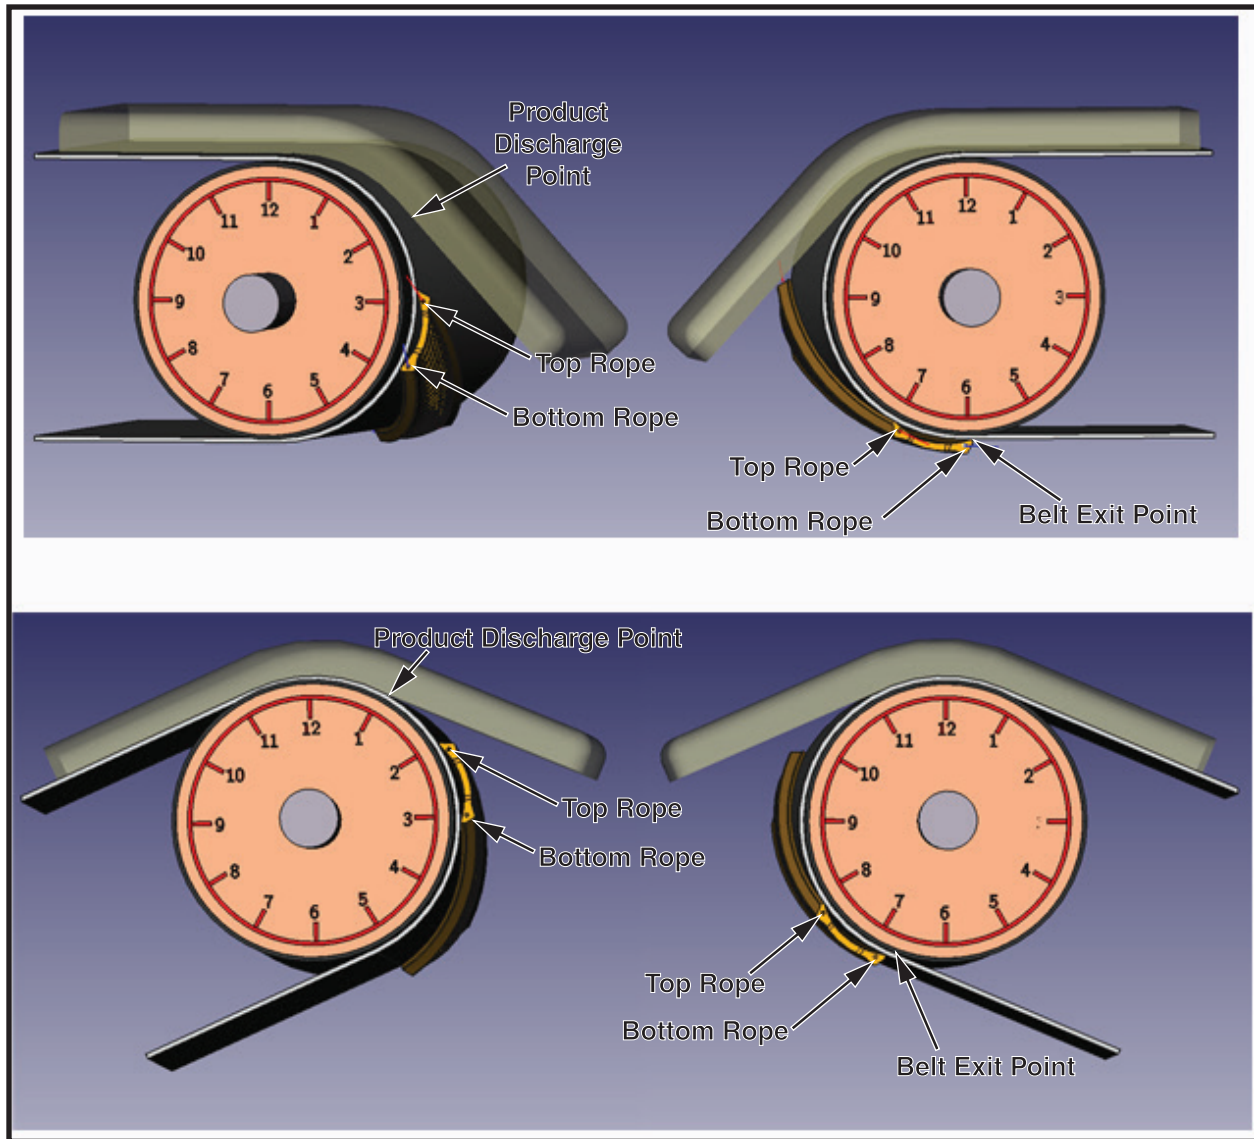
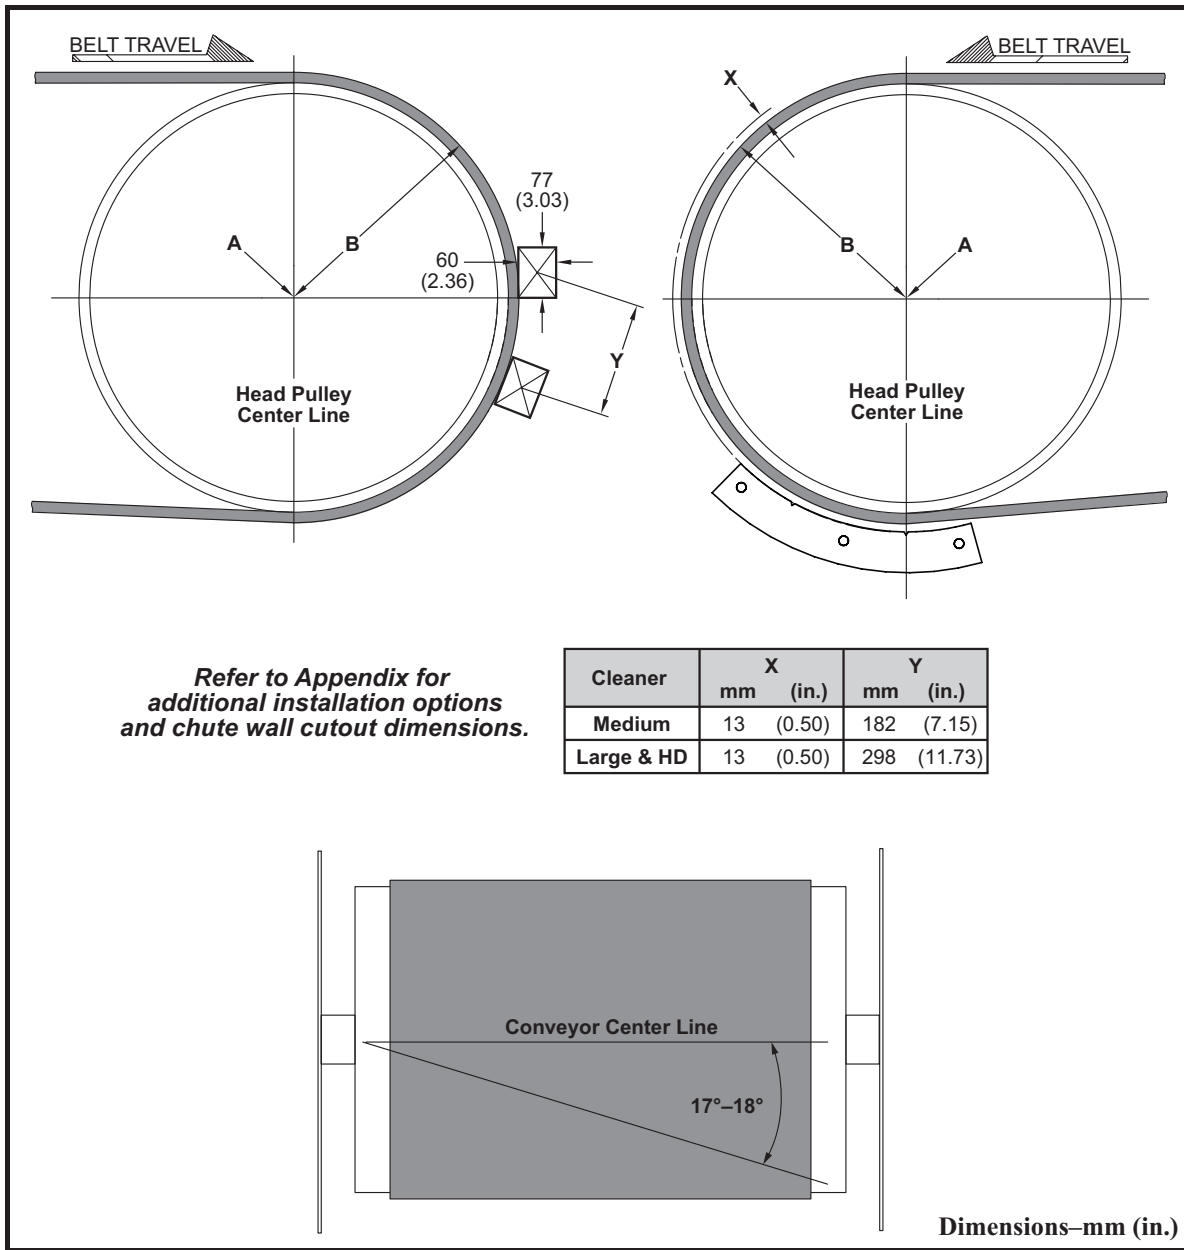

Figure 2. Typical Belt Cleaner Mounting Positions
Figure 6. Belt Cleaner Location & Chute Wall Cutouts
1. On both sides of chute, find pulley center point (A).
2. Measure radius of head pulley including lagging and belt thickness (B). To this dimension, add dimension X from Figure 6.
3. On the far side chute, start from center point (A), measure the total distance calculated in step 2 (B + X), and draw an arc on chute wall.
4. On the operator side of chute, start from center point (A), draw an arc on chute wall with radius of (B).
- a. Draw a centerline of the head pulley perpendicular to the conveyor belt line (see Figure 6). Rotate the bottom side mount back as far as possible in order to achieve at least 17° of belt wrap while not exceeding the belt exit (see Figures 2 & 3).
- (1) Position fixed point bracket (A) on far side chute wall as shown in Figure 6 (centerline install is used as an example).
- (2) Mark bracket hole locations.
- (3) Drill or cut three 13 mm (1/2-in) holes for screws in far side chute wall.
- (4) Mount fixed point bracket (A) to inside of far side chute wall using countersunk screws (B) and nuts.
- (1) Position fixed point bracket on far side chute wall as shown in Figure 6 (centerline install is used as an example).
- (2) Weld bracket to chute wall. Weld completely around bracket. Do not skip weld.
- b. Draw a line at 17° from bottom hole of bottom bracket to location of bottom hole on top bracket, or utilize a string or elastic band to locate proper angle. Attach string to bottom hole on bottom bracket and hold it to head pulley centerline at 6:00 o' clock position on opposite chute, check angle, adjust angle to stay below product discharge point (see Figures 2 & 3). Mark location for bottom hole of top side tensioner.
- c. Position weld plate as shown in Figure 6. The bottom of the cutout should be the conveyor centerline. The edge of the cutout should be tangent to the belt edge. Mark chute wall cutout as shown in Figure 6.
- d. Mark upper bracket chute wall cutout as shown in Figure 6. Dimension Y is equal to the distance between mount holes on far side bracket.